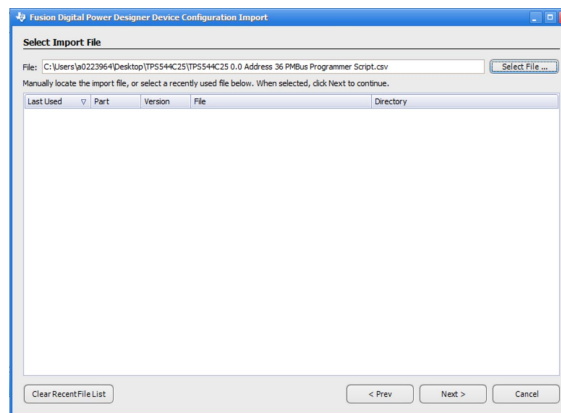

Figure 18. Selecting Import File
2. Click Select File, and select the file you want to import. Click Next to continue (as shown in Figure 18).